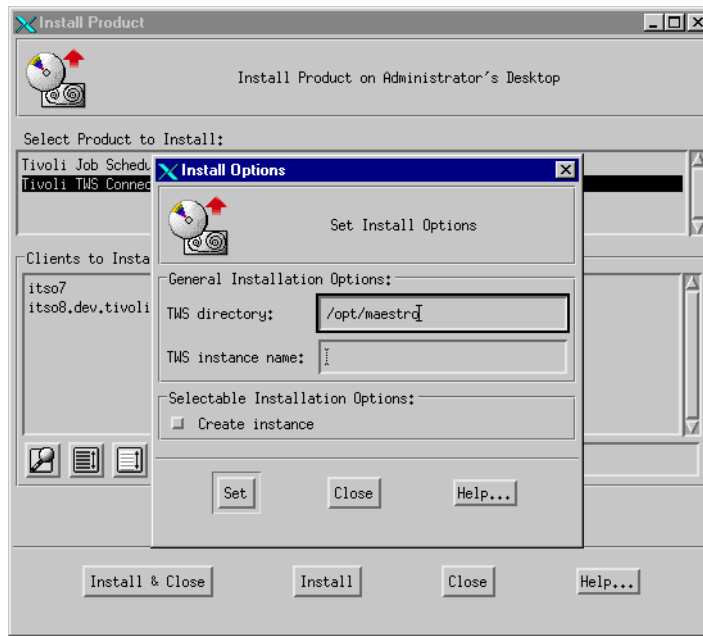

Figure 51. Install TWS Connector
21. Next, you need to install the TWS Connector to the TMR Server and TWS Master. Select **Desktop->Install->Install Product** from the Tivoli Desktop, and then choose **Tivoli TWS Connector**, as shown in Figure 51 on page 68. You will be prompted with an Install Options panel. *Do not create an instance in this phase* because we install two clients at a time, and instance names have to be unique. You can create instances later from the command line using the `wtwsconn.sh` utility.